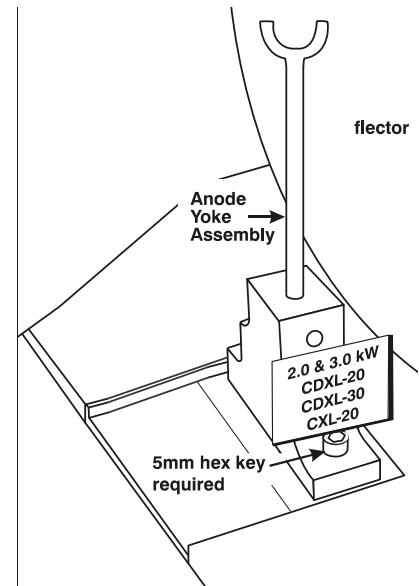

Figure 8-3 Lamp Yoke Position
- Check that the anode yoke (lamp yoke) is in the correct position. (Figure 8-3)